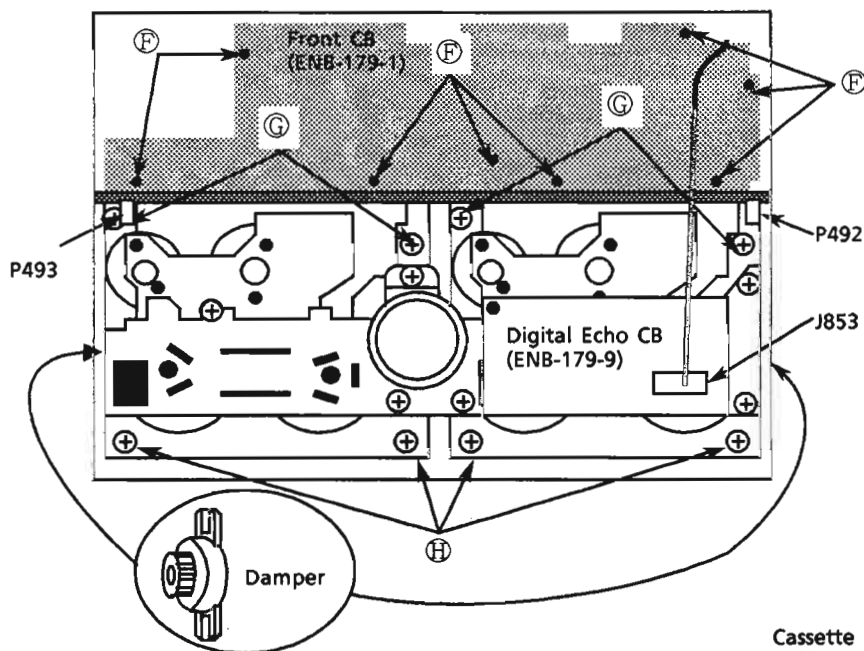

Figure 5 Back of the front panel assembly
3. Disconnect the connectors P492, P493 on the deck control circuit board and remove the flat wire from J853 on the digital echo circuit board (Figure 5).
4. Remove the 8 screws ① and ② fixing the assembly.